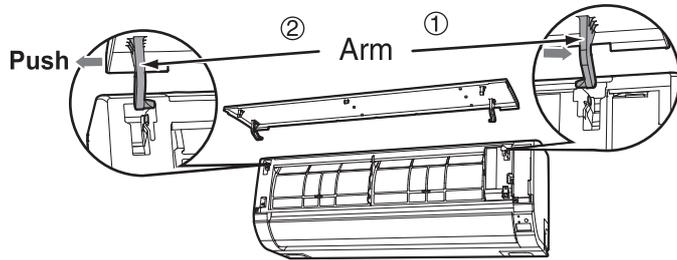
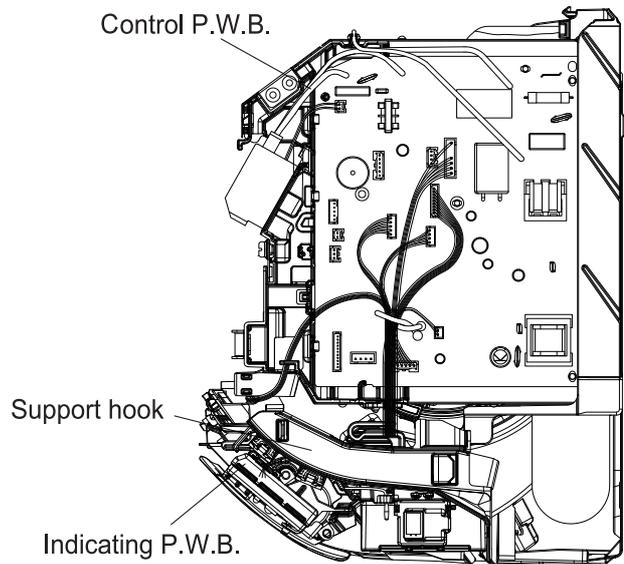

Fig. 1
Fig. 3
- (1)The total hours of air conditioning operation is more than 42 hours(SLEEP、ON TIMER operation will take 84 hours), And air conditioner is operated for more than 30 minutes, Meanwhile, the outdoor temperature and indoor humidity are suitable for the Frost Wash(Area A、B in Fig.3、4),Frost Wash (auto) start;
- (2)Within 2 hours before the ON TIMER designated time,Frost wash(auto) cannot be operate;
- (3)ONCE TIMER (ON/OFF TIMER) operation cannot be set,when Frost wash(auto) is running;
- (4)When the Frost Wash is stopped during Frost Wash operation, the unit automatically restart Frost Wash at the next operation stop.
- (5)Before the Frost period start,the outdoor temperature $\geq 16^{\circ}\text{C}$ . Or before the defrosting period finish,the heat exchanger temperature  $\geq 0^{\circ}\text{C}$ . The Heating period will not running. Fan period 1~ Fan period 2 all turn to Fan operation
- (6)In frost period,The maximum time is 10 minutes after the heat exchanger temperature  $\leq -10^{\circ}\text{C}$
- (7)Heating period will finish after the heat exchanger temperature  $\geq 35^{\circ}\text{C}$ ,remanent time turn to Fan period 2,the total time unchanged
- (8)Fan period 1~ Fan period 2 will not running,when last operation was HEATING;
- (9)When device operat Frost wash during ON condition,the device will stop and have blance time(3 minutes)
- (10)Before the Frost period start,OH temperature $\geq 60^{\circ}\text{C}$ ,Original blance period time will add 3 minutes
- ※1 According to room humidity, the Frost period time becomes as it is shown in Fig.1.